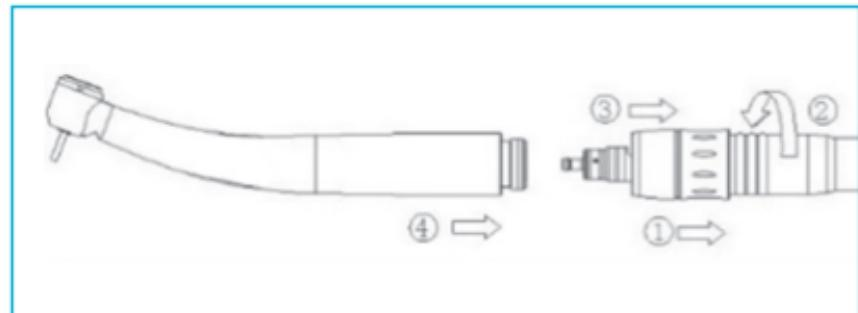

Fig. 6-7
- Screw the LED coupling onto the turbine hose (Fig.6-7①).
- Tighten the screw cap of the turbine hose hang-tightly (Fig.6-7②).
- Assemble the medical device accurately on the LED coupling while sliding the lock ring (Fig.6-7③④).